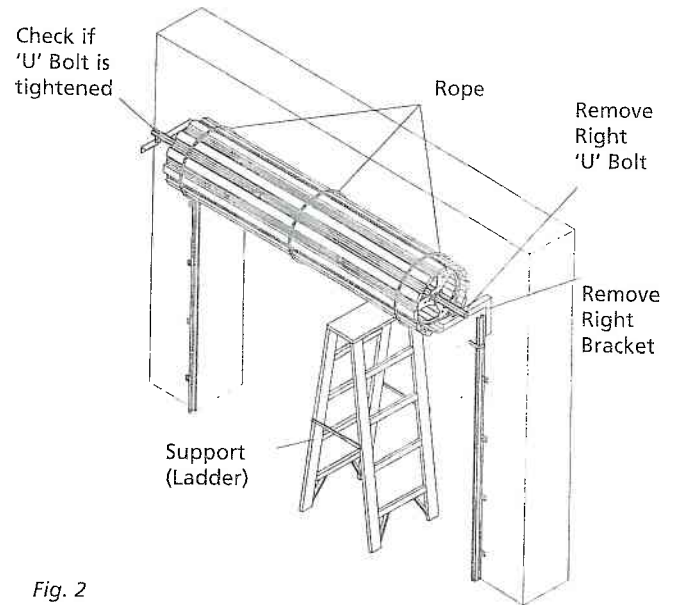

Fig. 2
- Support the right hand end of the door with a suitable prop, e.g. step ladder and soft padding to protect the door surface (Fig. 2)